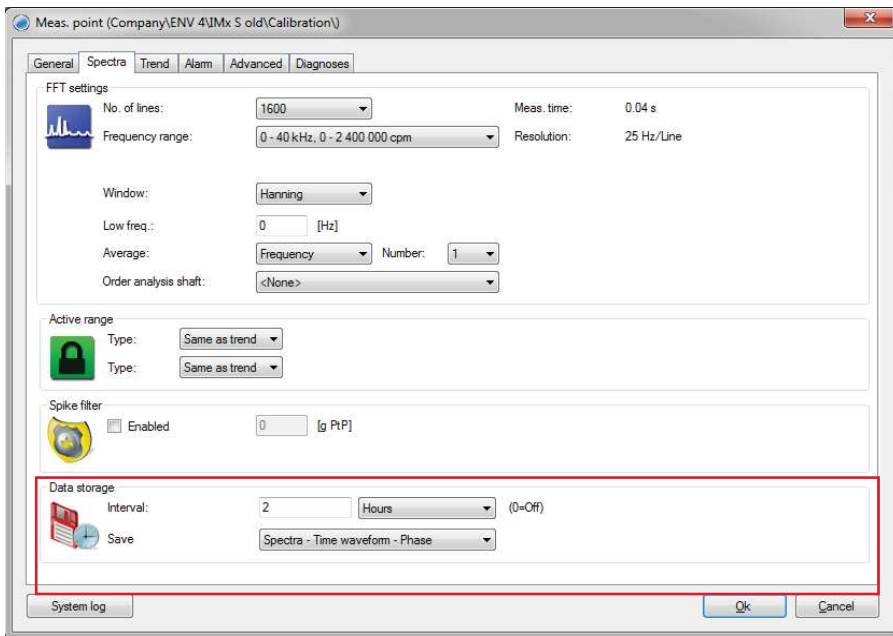

Fig. 2. Measurement point configured to save data every two hours – SKF @ptitude Observer.
- SKF Multilog IMx is always measuring and calculating all configured items for each channel. Then the unit saves the values according to the value configured in the **Interval** field in the point property's **Spectra** tab in the "Data storage" section (→ fig. 2).